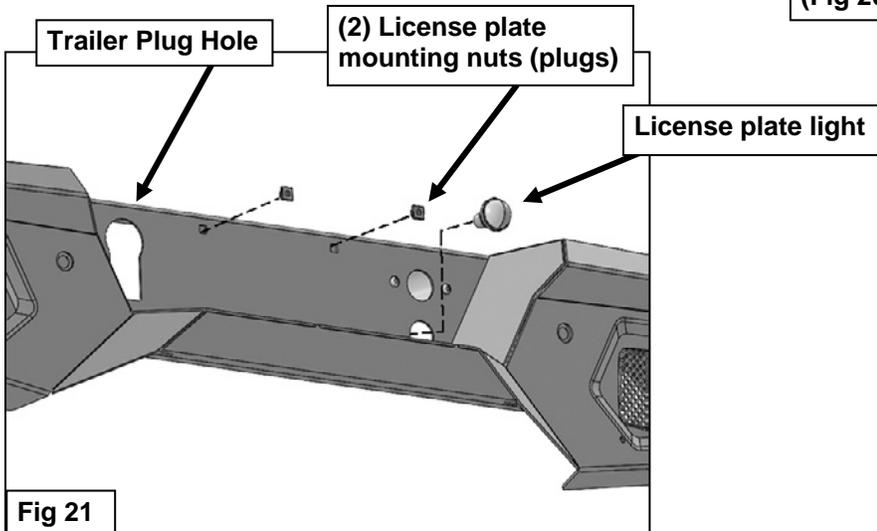

Fig 21
13. Use the included (2) push-in Plastic Plugs to attach the rear license plate to the (2) holes in the Bumper, **(Figure 21)**. Insert the License Plate Light into the hole in the bumper, **(Figure 21)**. Attach the License Plate Light wires to the end of the factory wire harness. Insert the trailer plug into the trailer plug hole, **(Figure 21)**.